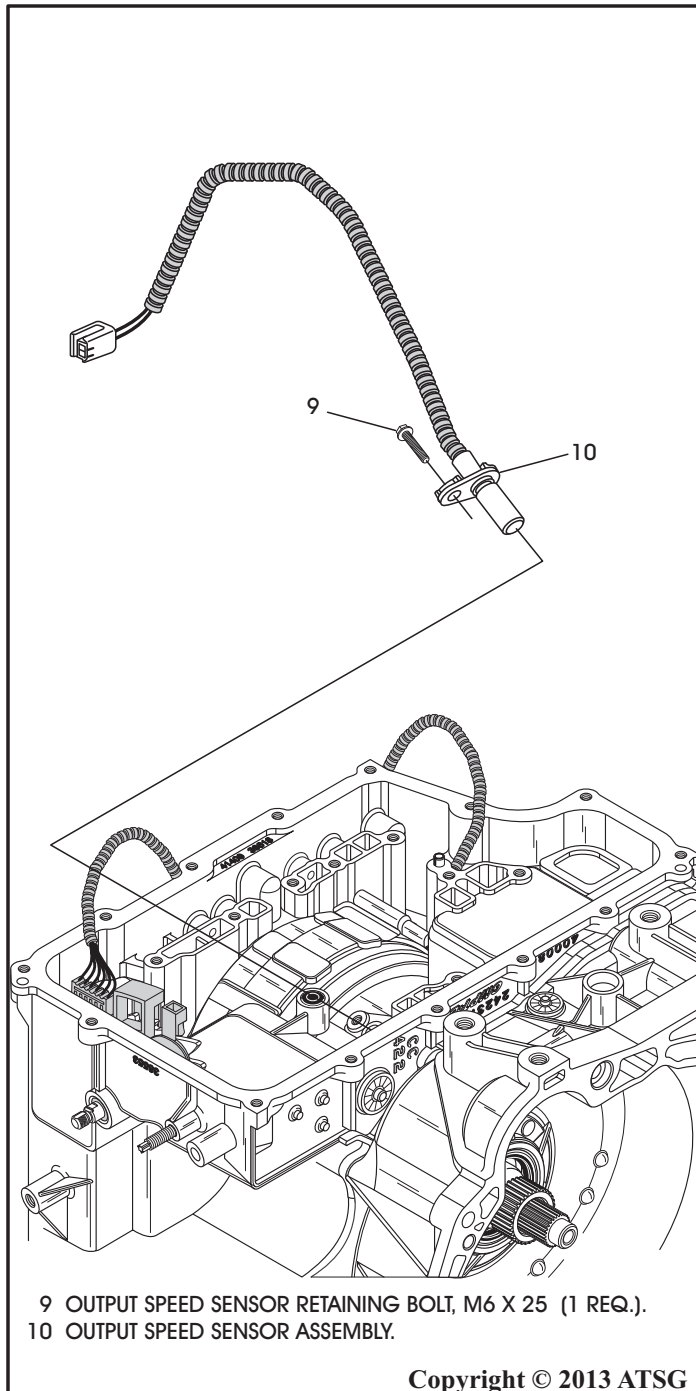

Figure 52
21. Remove the output speed sensor retaining bolt, as shown in Figure 52.
22. Remove the output speed sensor assembly, as shown in Figure 52.